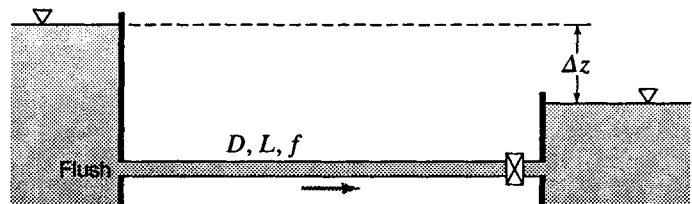

Figure X12.4.3
12.4.3 A 250-mm-diameter pipe (flush entrance, $f = 0.026$) 1000 m long can deliver water from a higher reservoir to a lower one (submerged discharge) (Fig. X12.4.3). The difference between the two water surface elevations is 75 m. After a valve near the downstream end is suddenly opened, what will be the steady flow velocity in this pipe, and how long after the valve is opened will the flow velocity be one-third and two-thirds of the steady velocity?